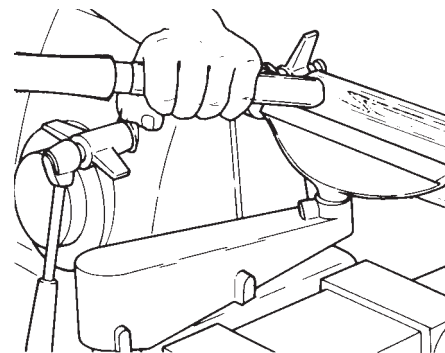

Figure C-44
- d. Feed the gouge into the stock and draw it back along the tool rest. Repeat this procedure until the stock is completely round. See Figure C-44. Turn off the MARK 520S.